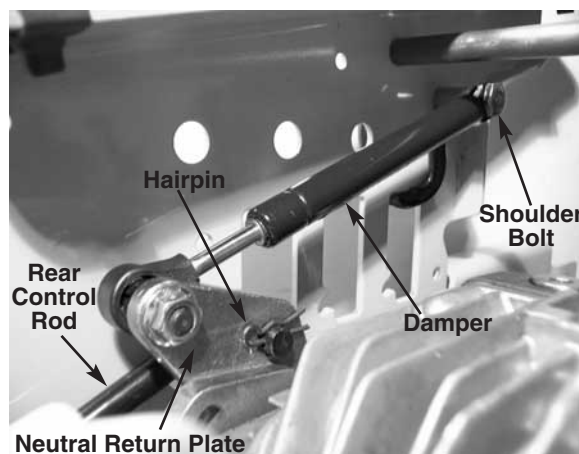

FIGURE 4.
15. Remove the shoulder bolt and lock nut securing the cylinder damper to the frame using a 5/8 wrench and a 7/16 socket. See figure 4.
16. Remove the hairpin from the rear control rod at the hydro neutral return plate. See figure 4.